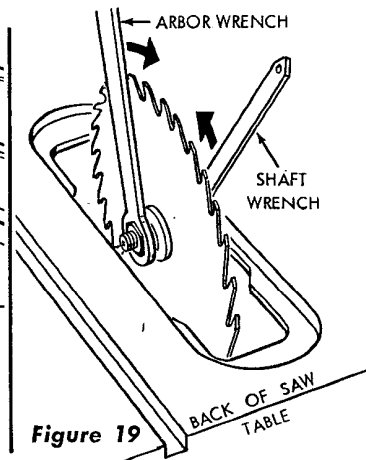

Figure 19
- a. Remove the table insert and check the saw arbor nut to make sure it is tight. Use the shaft wrench on arbor flats and arbor wrench on the arbor nut, as shown in figure 19. Install the table insert.